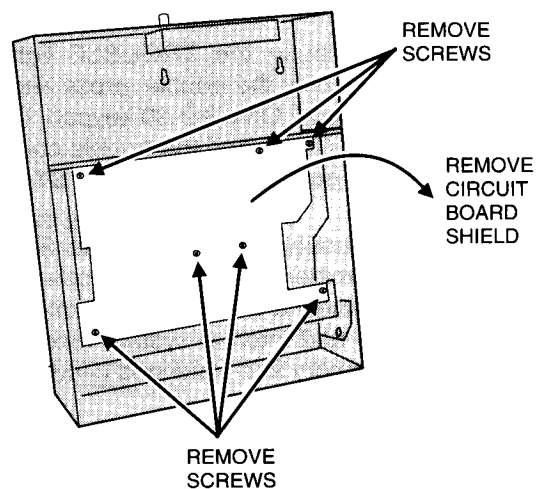

Figure 52. Removing Circuit Board Shield
STEP 1 Remove circuit board Shield. Remove the seven screws from the Circuit board shield (see Figure 52). Carefully remove the shield and set it aside.